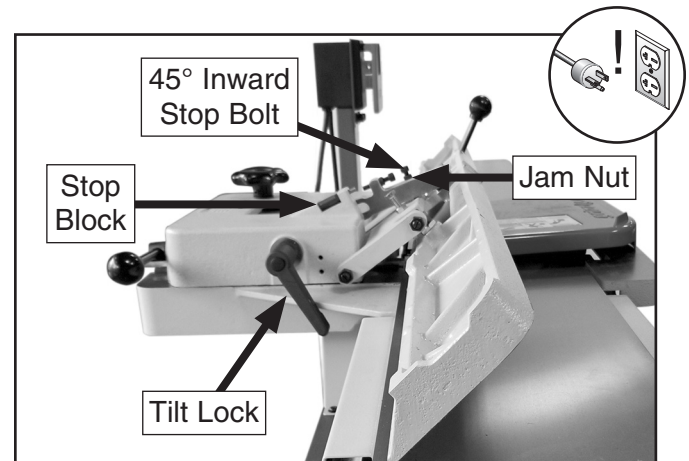

Figure 59. Fence set to 45° inward.
- Loosen fence tilt lock, rotate stop block up, then tilt fence approximately 45° inward onto stop bolt (see **Figure 59**).
- Loosen jam nut on 45° stop bolt and adjust stop bolt until fence is exactly 45° inward while resting on stop bolt (see **Figure 59**). Verify angle, then retighten jam nut.